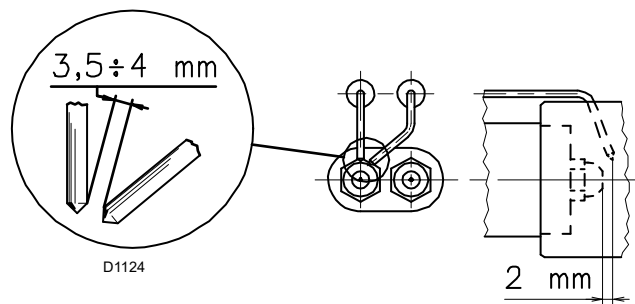

Fig. 14
Check that the electrodes are positioned correctly, as in Fig. 14, complying with the dimensions indicated.
- The nozzle for the 1st stage of operation is the one beneath the ignition electrodes, Fig. 14 on page 17.